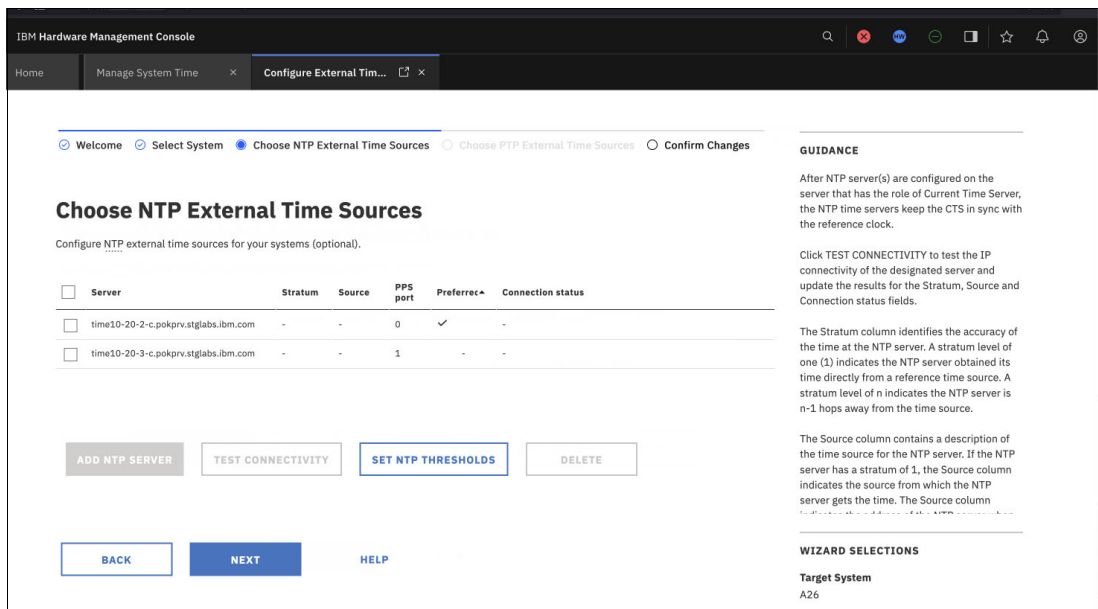

Figure 4-34 NTP servers selected as ETS
- After you add the second NTP server, click **NEXT** (Figure 4-34).